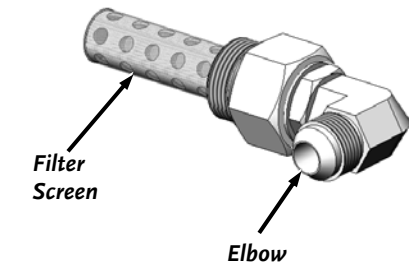

Figure 34
- Remove the Screen (with elbow) from the Tank with an Adjustable Wrench and clean any debris from the Screen or replace as needed (**Figure 34**).